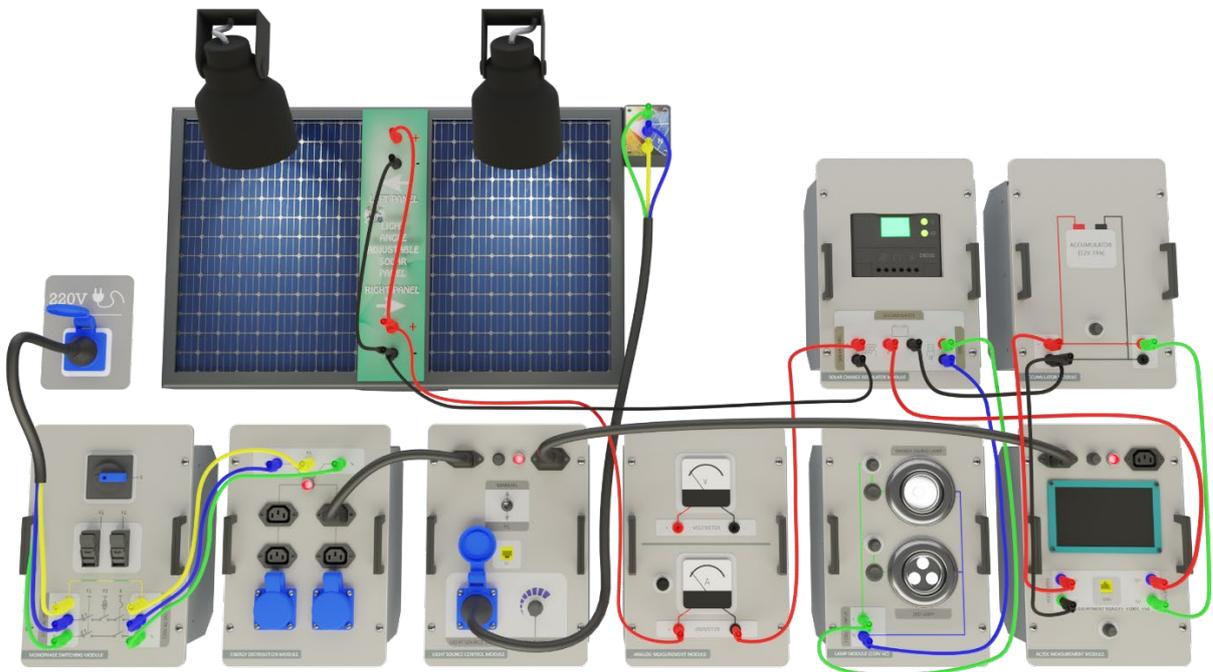

Figure-62. Installation Image of Installation of a Basic Photovoltaic System with DC Load
1. Set up the connection as specified in Figure-62. Ensure a constant level of light in the laboratory to maintain an average scenario. Note that any changes to the positions of the lamps or curtains may affect the experimental outcomes.